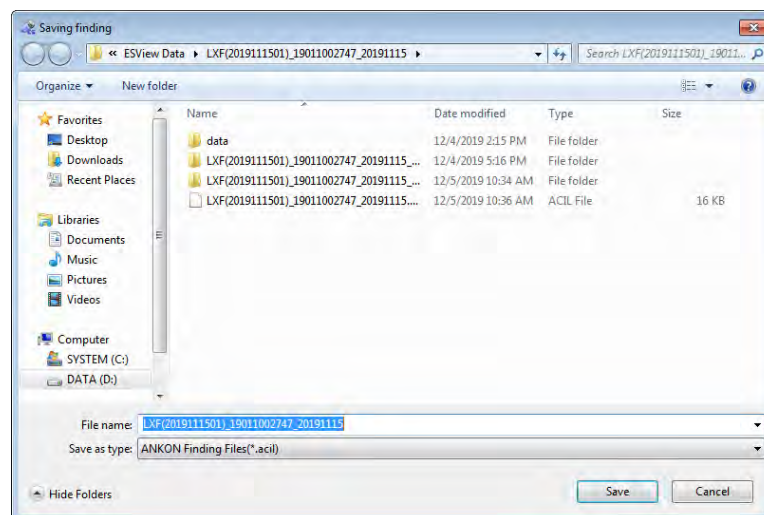

Figure 4-59: Save Finding Interface
8. In the main software interface, select “File” → “Saving finding” to access the save finding interface (Figure 4-59). The finding file saves image markings, comments, and other textual information. Subsequently, the user can select “File” → “Open finding” in the menu to load video with all the findings again.